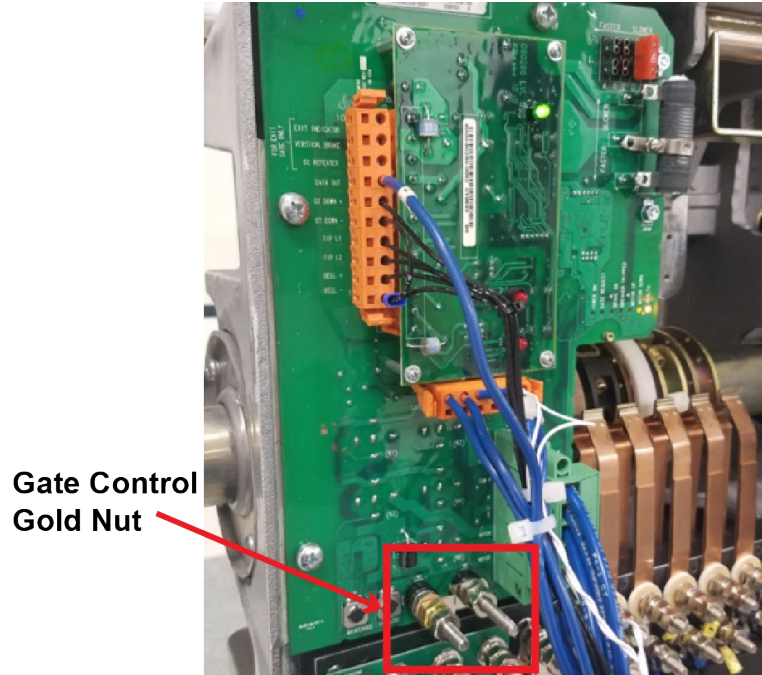

Figure 2 Gate Control Nut
1. Open the gate control gold nut located on the Gate Circuit Board to release braking on motor (Figure 2). Protect gate mech from sudden movement.